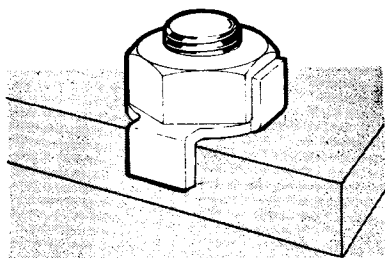

Fig. 5. Tab washer
c. *Tab washer.* This is a metal washer with two or more tabs and is suitable for use with standard nuts (Fig. 5). One tab is bent against the face of the nut and the other over a suitable edge of the component. Tab washers must be used *once* only. Some tab washers are designed with a tab which fits into a slot or hole in the component; and others which fit against a flat or groove of a special bolt.